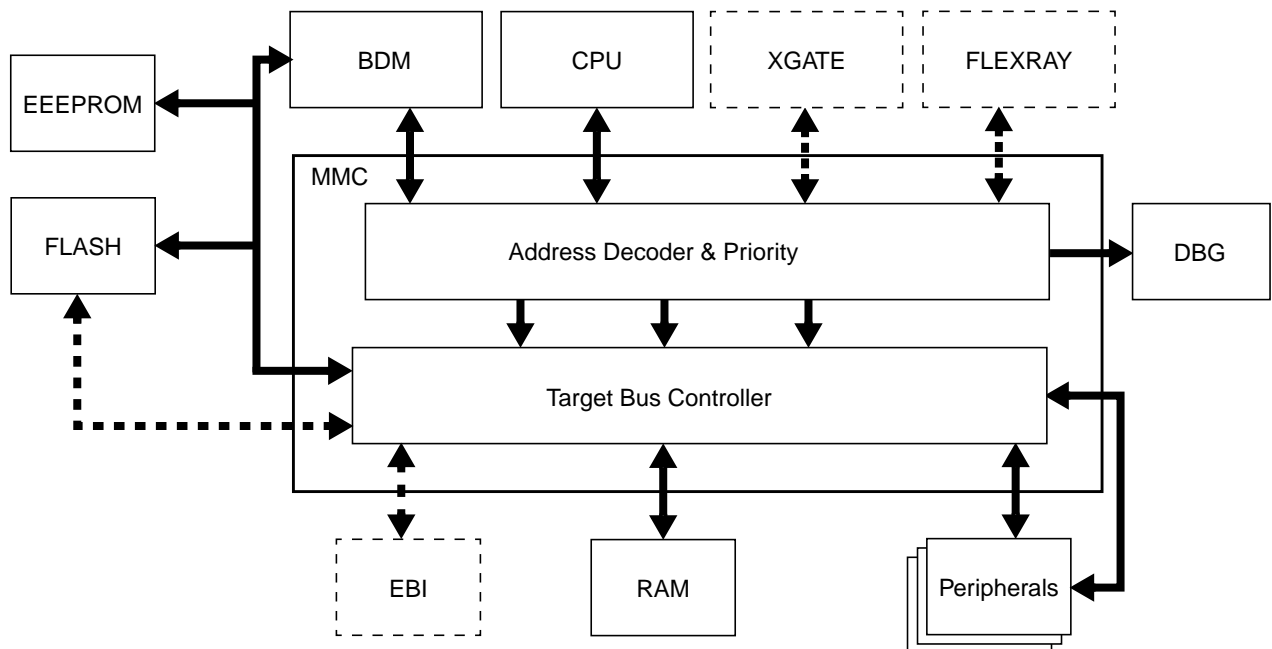

Figure 11-1. MMC Block Diagram
This section describes the functionality of the module mapping control (MMC) sub-block of the S12X platform. The block diagram of the MMC is shown in Figure 11-1.
- Simultaneous accesses to different resources1 (internal, external, and peripherals) (see Figure 11-1)